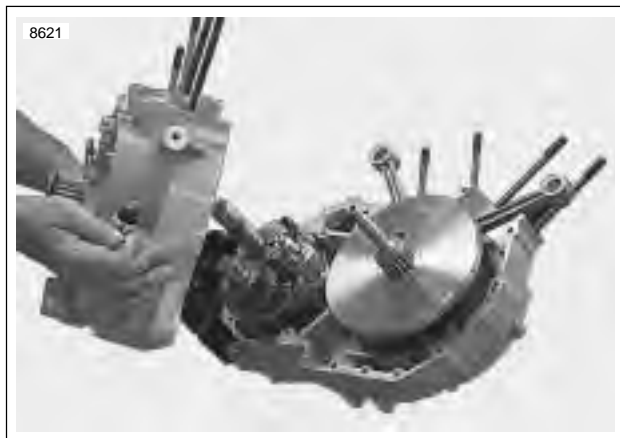

Figure 6-53. Separating Crankcase Halves
17. See Figure 6-53. Separate crankcase halves.